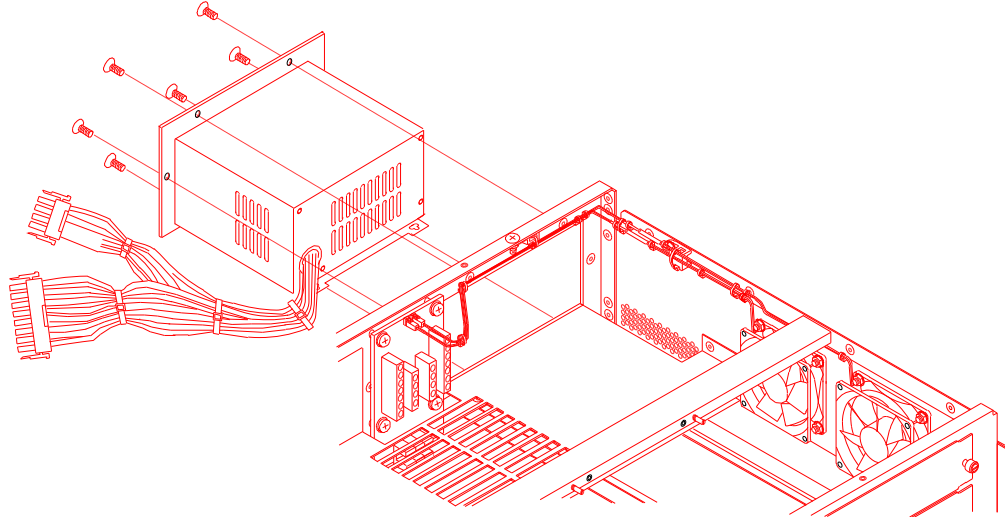

FIGURE 5-1 How a power supply fits into the PowerHub 6000 chassis.
The following procedures describe how to install and remove a power supply. For reference, Figure 5-1 shows how a power supply is installed in the PowerHub 6000 chassis.
- (4) Use the #2 Phillips-head screwdriver to insert the six screws that secure the power supply to the chassis, as shown in Figure 5-1.
- (1) Remove the screws that secure the power supply to the chassis, as shown in Figure 5-1.
- (2) Unplug the two connectors from the power backplane.
- (3) Use the procedure in Section 5.1.1 on page 73 to install a new power supply. If you do not plan to install a new power supply, use the screws you removed to install a cover plate (part # 171-1213-0001) over the empty power supply bay.